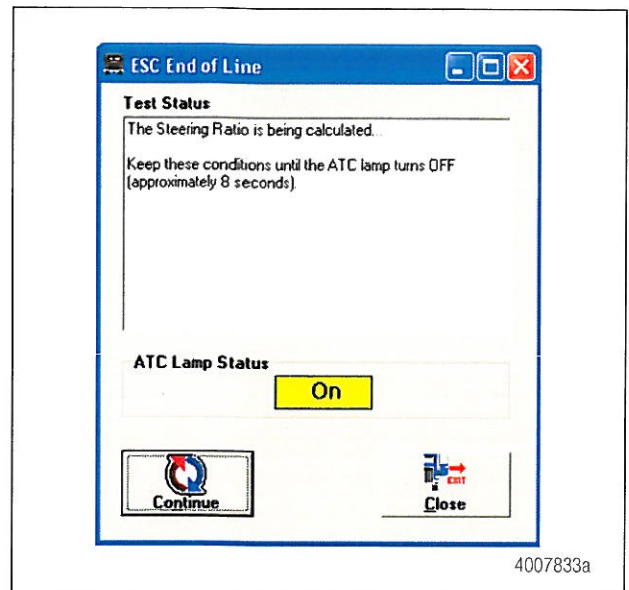
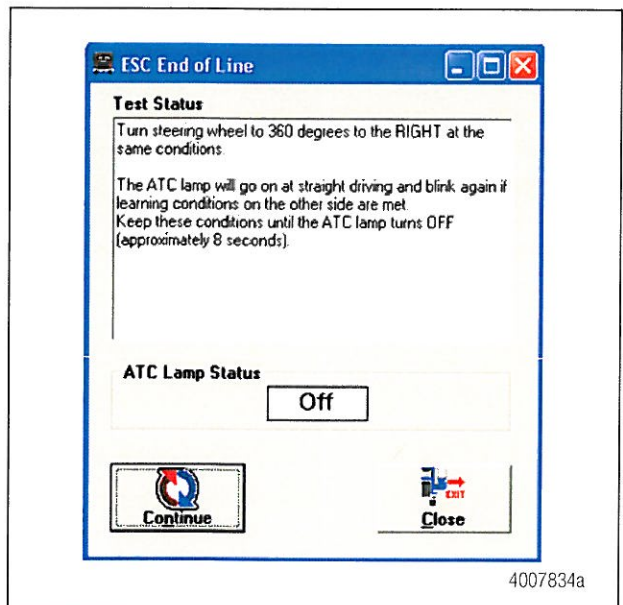

Figure 23
Figure 24
8. Read the message box carefully. The ATC/RSC/ESC lamp will start blinking when the required conditions are met. Keep driving until the lamp turns off. Figure 23.
9. This message will appear after the steering ratio has been calculated. Figure 23. Stop the vehicle. Read the message box carefully and follow the instructions. Turn the steering wheel 360 degrees in the opposite direction from being centered. Repeat the driving conditions. Again, the ATC/RSC/ESC lamp will start blinking when the required conditions are met. Keep driving until the light turns off. Figure 24.